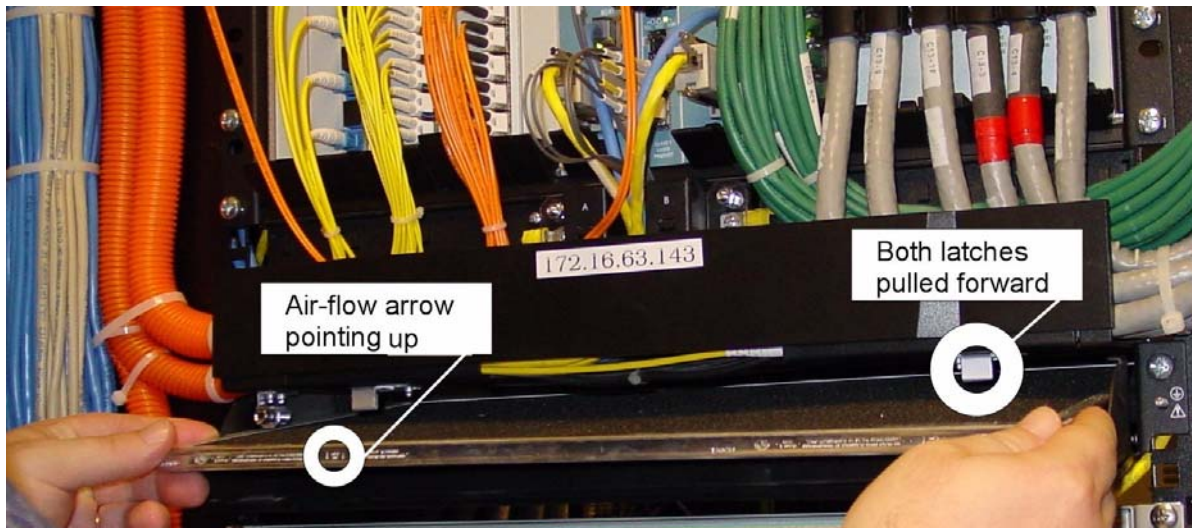

FIGURE 4-1 Removing Air Filter for Inspection
3. The filter is placed in a slightly upward position. Grasp the edge of the filter and manipulate it (dropping it about 0.5 inch [1.3 cm] until you can slide the filter out. Refer to Figure 4-1.